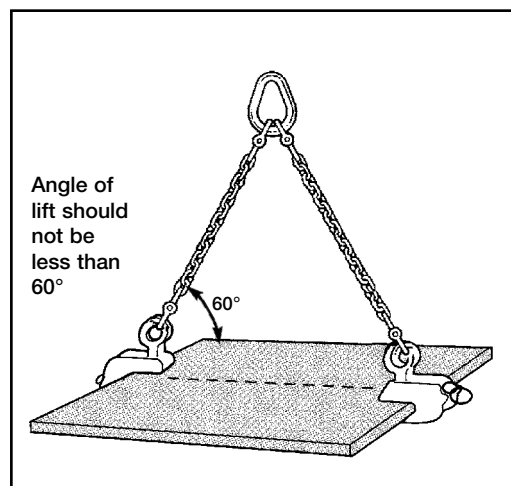
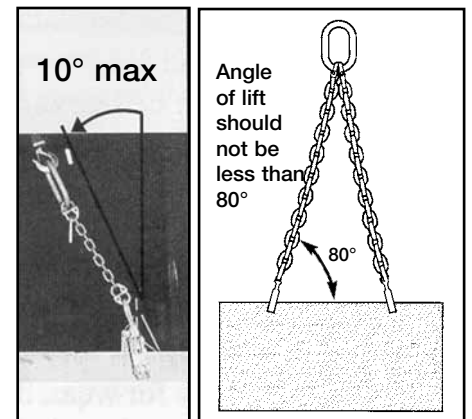

Figure 47
Figure 48
Determine if more than one sling is required to balance the load (Fig. 47). When the size or shape of a plate or fabricated section is too large for a pair of clamps to properly balance the load, the use of a multiple sling or spreader bar is required.
- B. The lifting angle (Fig. 47) between the sling legs on opposite sides of the load should be less or equal to 60 degrees. The lifting angle (Fig. 48) between the sling legs on same side of the load should be less or equal to 20 degrees.
Position the clamp(s) to balance the load. Position the clamp(s) so the lifting force of the crane is directly in line with each clamp's lifting shackle, and the load is evenly distributed (Fig. 48).